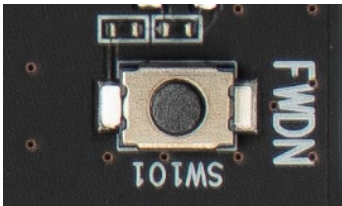

Figure 4.3 FWDN Tact Switch (SW101)
The VCP-G has one pin for boot configuration using Boot Mode (BM) and supports 2 modes: UART FWDN mode and normal mode. Figure 4.3 shows the location of FWDN tact switch (SW101), which is used to select the boot modes of the VCP-G board.